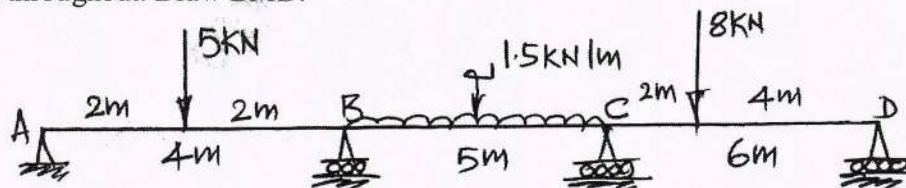

Fig.Q7
- 7 Analyze the continuous beam shown in Fig.Q7 by flexibility matrix method. Take EI constant throughout. Draw BMD.